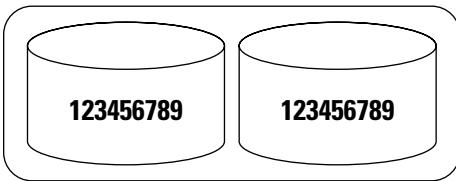

Figure 2-21:
- ✓ **RAID 1:** RAID 1 is called *disk mirroring*. All the data is written to a minimum of two separate physical disks, which essentially are mirror images of each other. If one of the disks fails, the other can be used to retrieve data. Although disk mirroring is good for very fast read operations, it's slower when writing to the disks because the data needs to be written twice. RAID 1 requires at least two physical disks. (See Figure 2-21.)